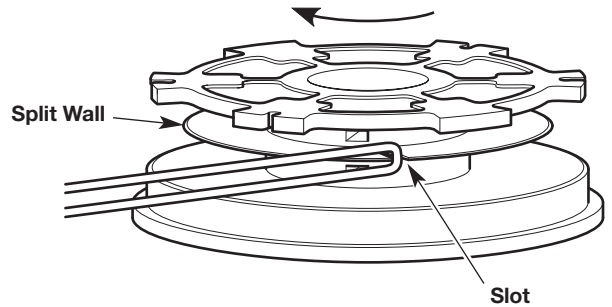

Fig. 19
2. Insert the loop into the slot in the split wall (Fig. 19). Wind the line tightly in the direction shown on the bottom of the inner reel until about 6 inches (150 mm) of line remains. Keep the top half of the line above the split wall and the bottom half of the line below the split wall.